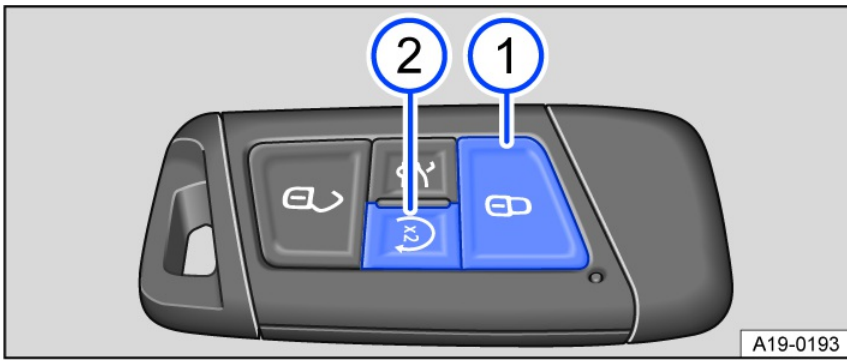

Fig. 96 Vehicle key with remote start relay function.
1. Press the  button once *fig. 96*.
2. Press the  button twice *fig. 96*.
1. Press the  button on the remote control vehicle key to switch off the engine *fig. 96*.